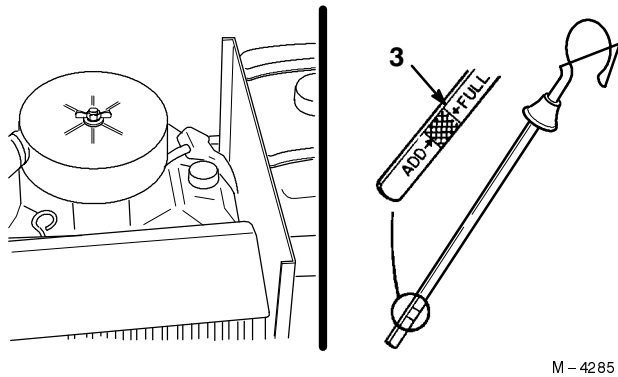

Figure 17
3. Clean around the oil dipstick and oil fill (Fig. 17) so dirt cannot fall into the filler hole and damage the engine.
4. Pull the oil dipstick out and wipe the metal end clean (Fig. 17).
5. Slide the oil dipstick fully into the dipstick tube (Fig. 17). Pull the dipstick out and look at the metal end. If oil level is low, slowly pour only enough oil into the filler hole to raise the level to the “FULL” mark.
5. Slowly pour approximately 80% of the specified amount of oil into the filler tube (Fig. 17). Now check the oil level; refer to Checking Oil Level, page 23. Slowly add additional oil to bring to "FULL" mark on dipstick.